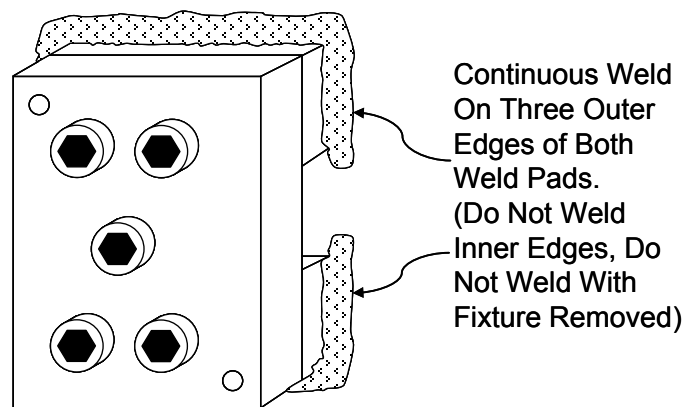

Figure 26: Weld Pad Welding Technique
- 5) Hold the alignment/clamping fixture firmly on the mounting area in the direction of tension or compression of the structural member or, alternatively, drill a 5/8" deep hole through the center hole of the alignment/clamping fixture, tap for 1/4 x 28 threads, and bolt the alignment/clamping fixture to the mounting area through the center hole. Tack weld both sides of each intermediate pad to the mounting surface first, then continuously weld the outer ends and sides of the intermediate pads to the mounting surface, as shown in Figure 26.